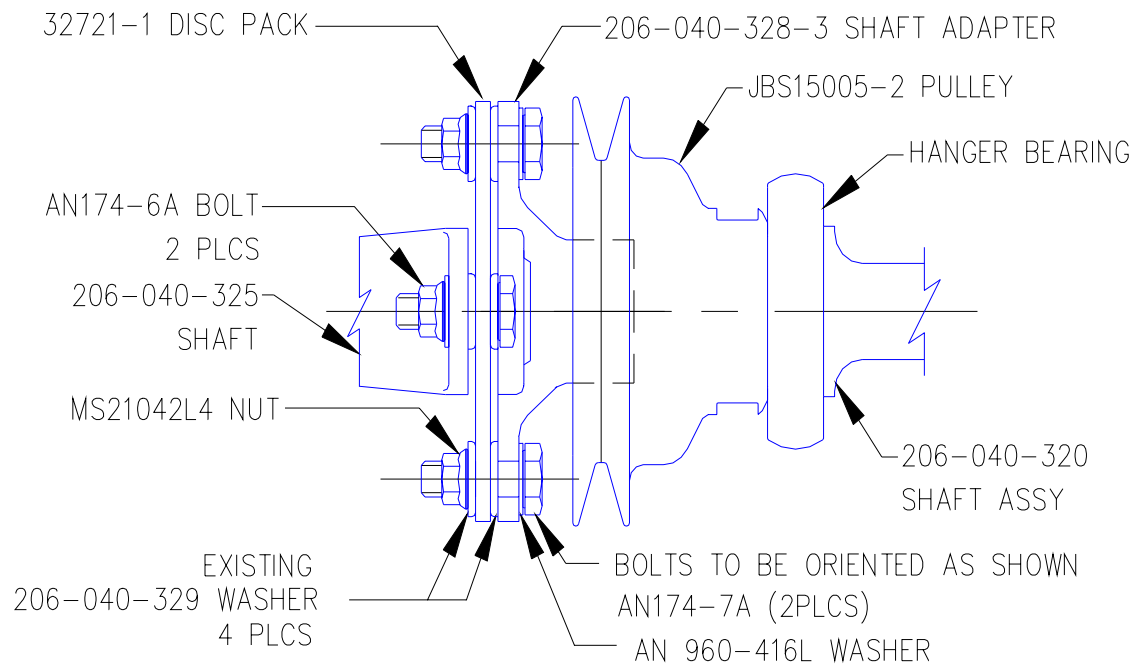

Figure 202. Pulley/Disc Pack Installation
1. Install the MS28775-211 o-ring (6) on the fwd. end of the oil cooler fan shaft assy by coating the o-ring with anti-seize compound per MIL-A-907 and sliding over the splines into the recessed area on the aft side of the splines.
2. Coat the inside of the JBS15005-2 (12) pulley between the threads and the counter bore with anti-seize compound. Also, coat the matching of the shaft with anti-seize compound.
3. Install the JBS15005-2 pulley (12) on the oil cooler fan shaft. Install wrench 206-1435-3 on Bell Thomas Coupling, P/N 206-040-328-3 splined adapter, using existing hardware. Using spanner wrench (Snap-On P/N APS363 or equal), hold pulley in place. Slide Thomas Coupling with wrench installed, over shaft and torque to 200 to 300 in/lb. Place wrench, P/N 206-1435-3, with rotorcraft's tools.
4. Install JBS15005-1 splined internal ring (10) over the shaft and align holes to match holes of pulley. Position the ring until holes align. Pulley may be adjusted slightly to achieve alignment, maintaining 200 to 300 in – lbs. torque.
5. Install (4) NAS1351-3H6 (25) screws in the JBS15005-1 ring and torque 50 to 70 in – lbs. Safety wire the four screws with MS20995C32, Single Wire Method in accordance with MS33540.
E. Disc Pack, Shaft Adapter or FWD Shaft Installation (Ref. Fig. 202)
See Fig 202.
2. After the disc pack is in place, add (1) existing 206-040-329 washer on each bolt under the existing Bell nut, with the radius edge facing the disc pack. Insure that the bolts are installed as described with the bolt head on the adapter side of the assembly, then torque nuts per manufacturers specifications.
- Attach the forward shaft assy, P/N 206-040-325, to the disc pack/adapter assy. near the pulley with existing hardware oriented and installed as shown in Fig. 202. Insure that radius edge of washers mate against disc pack.